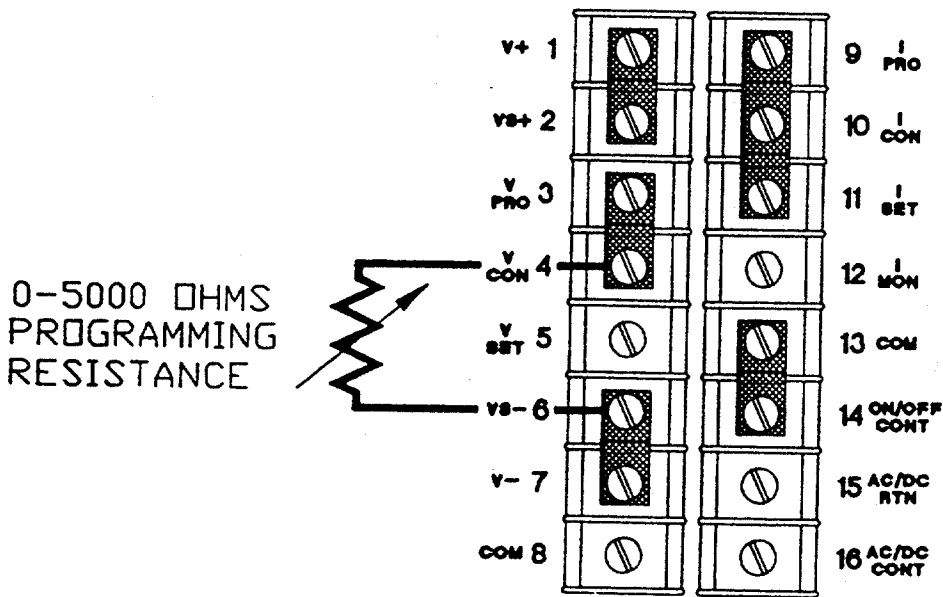

FIGURE 3-5
(1) External Voltage Programming Using Resistance. The resistance coefficient for remote voltage programming is 5k ohms = 100% of rated output voltage. The programming current from terminal 3 is factory set to 1.000 mA. If multiple switches or relays are used to program different levels, make-before-break contacts are recommended. See Figure 3-5 for strapping requirements.